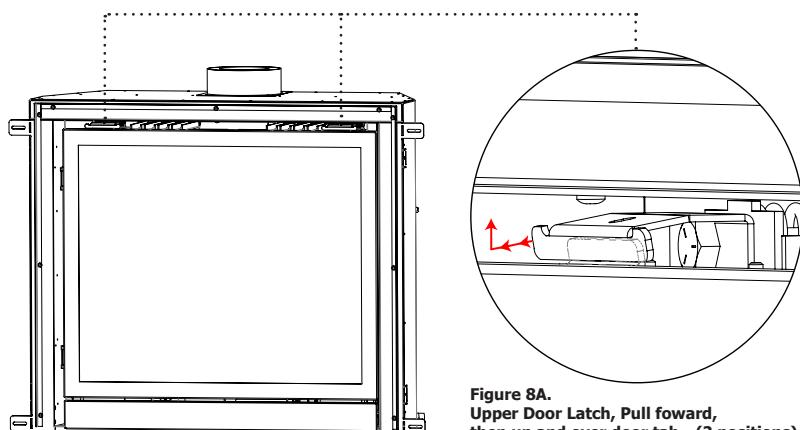

Figure 8A.
**Step 2.** To remove the glass door use your two index fingers to pull the spring latches up over the two door tabs. Fig. 8A